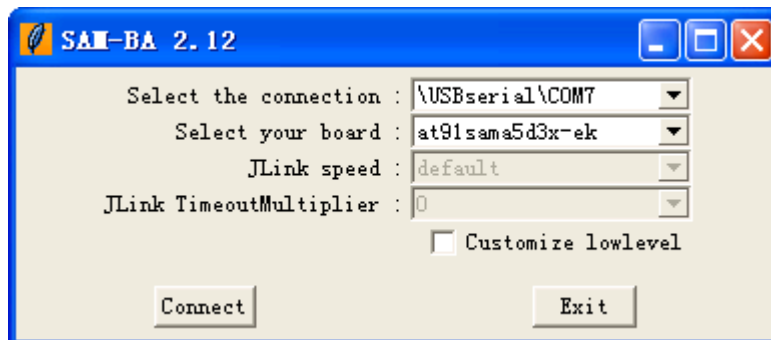

Figure 5.3.2 SAM-BA startup interface
- As shown in figure 5.3.2, select “**at91sama5d3x-ek**” and “**\USBserial\COM7**”, and click “**Connect**”. While if there is no “**\USBserial\COM<x>**” option, please press key **PB5** to reset the board and launch SAM-BA to try again.